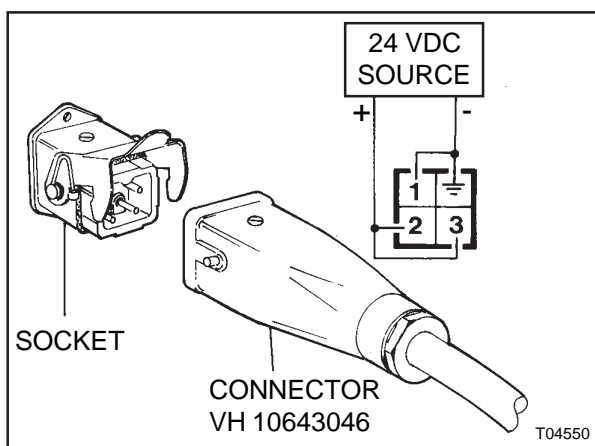

Figure 2 : Multi-wire connector VH 10643046 and power cable connections
- The wires of the 24V DC power source cable should be connected as shown in Figure 2 to multi-wire connector VH 10643046, which fits the socket in one position only.